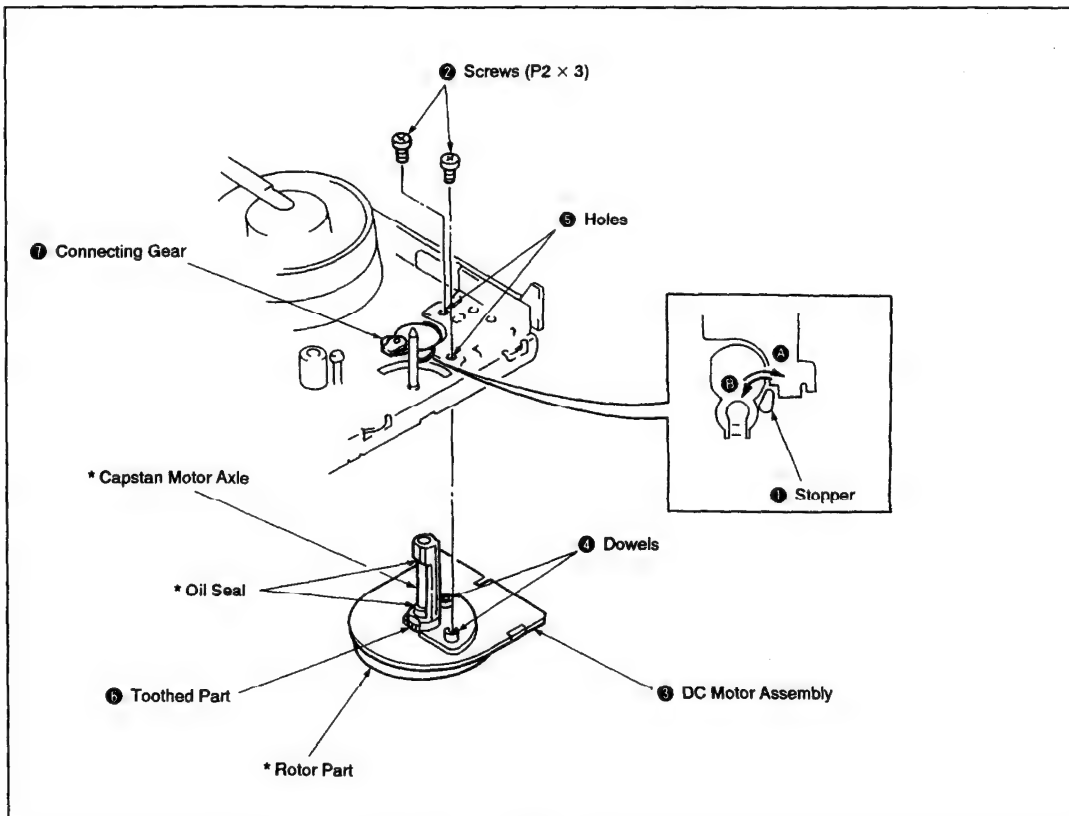

Fig. 3-3.
1. Removal (See Fig. 3-3.)
2. Installation (See Fig. 3-3.)